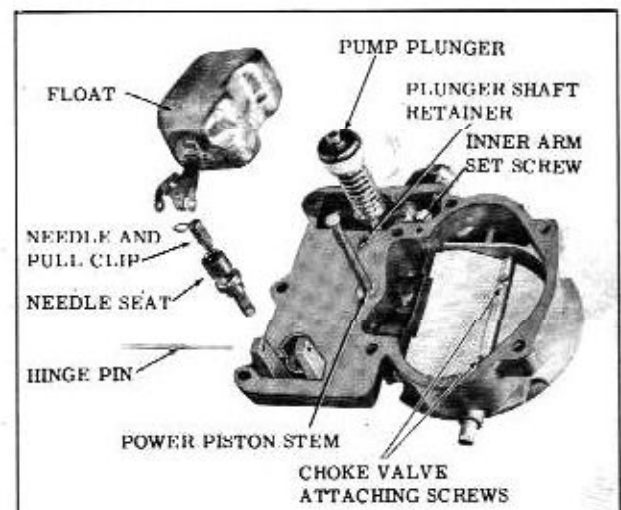

Fig. 8-105 Air Horn
7. Invert the air horn and place on a flat surface, then remove the float hinge pin, float and needle assembly. (Fig. 8-105)